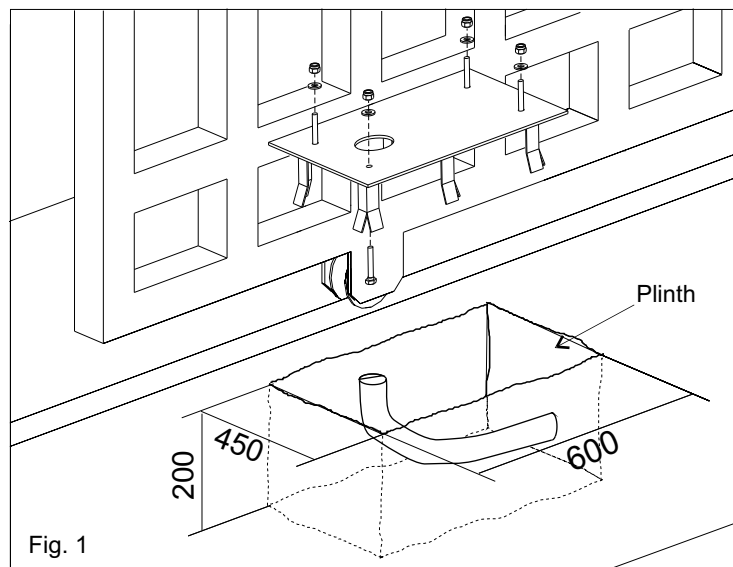

Fig. 1
2.1. Have a mounting plate manufactured to the dimensions shown in Fig. 1. The plate will require to have concrete holding into which the foundation plate.
Note: It is best if the gate structure allows the plate to be raised up from the finished level by 50 mm (Fig.1). This will stop water gathering around the operator.